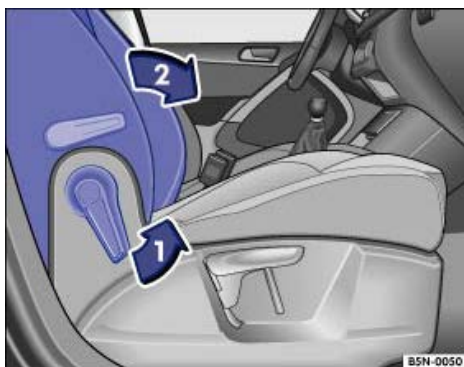

Fig. 93 Folding the front passenger seat backrest forwards.
- Release the front passenger backrest in the direction of the arrow → Fig. 93 .
- Fold the front passenger seat backrest forwards in the direction of the arrow → Fig. 93 until it is horizontal.
- To fold back, release the front passenger seat backrest → Fig. 93 .